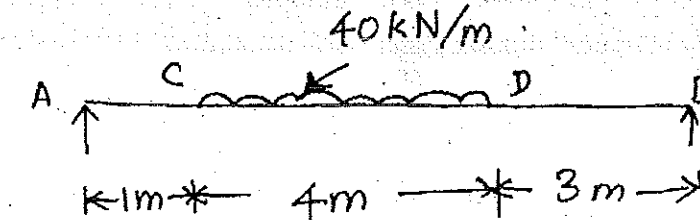

Fig.Q.14(a)
- (ii) A closed coiled helical spring is to be made out of 5 mm diameter wire 2 m long so that it deflects by 20 mm under an axial load of 50 N. Determine the mean diameter of the coil. Take $C = 8.1 \times 10^4 \text{ N/mm}^2$. (6)
14. (a) Determine the deflection at its mid point and maximum deflection for the beam given in fig.Q.14(a). Use Macaulay's method. $E = 2 \times 10^5 \text{ N/mm}^2$, $I = 4.3 \times 10^8 \text{ mm}^4$.